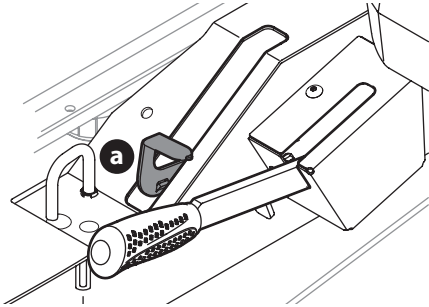

Figure 41
1. Engage the transmission bypass valves by pulling the bypass lever (a) upward and all the way back (Figure 41).
2. To release the bypass lever (a), push the lever forward (Figure 41).